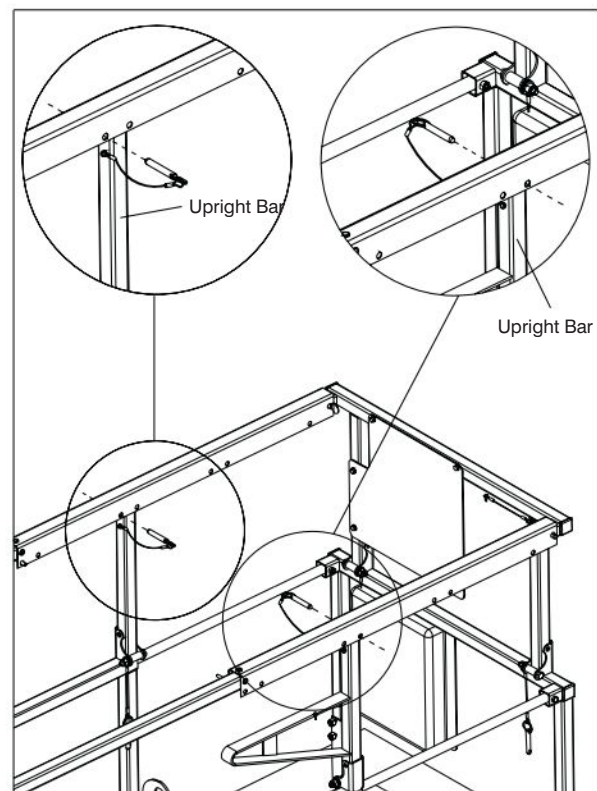

Figure 3-11. Variable Position Manual Extension Platform
2. Upon extension or retraction, reinsert locking pins. Insert pin on one side of MEWP in front of upright bar and the pin on the other side of MEWP behind the upright bar to prevent accidental movement, in either direction, of manual extension platform during travel or transport. Refer to Figure 3-11 for a configuration example.